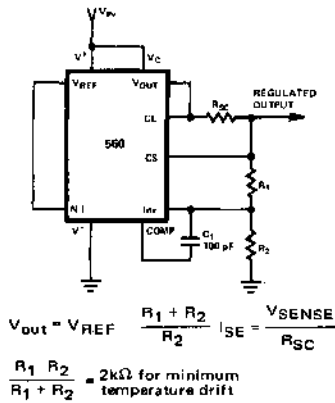

FIGURE 1
- Unless otherwise specified, $T_A = 25^\circ\text{C}$, $V_{in} = V^+ - V^- = V_o - 12\text{V}$, $V^- = 0\text{V}$, $V_{out} = 5\text{V}$, $I_L = 1\text{mA}$, $R_{sc} = 0$, $C_1 = 100\mu\text{F}$, and divider impedance as seen by error amplifier $\approx 2\text{k}\Omega$ when connected as shown in Figure 1.